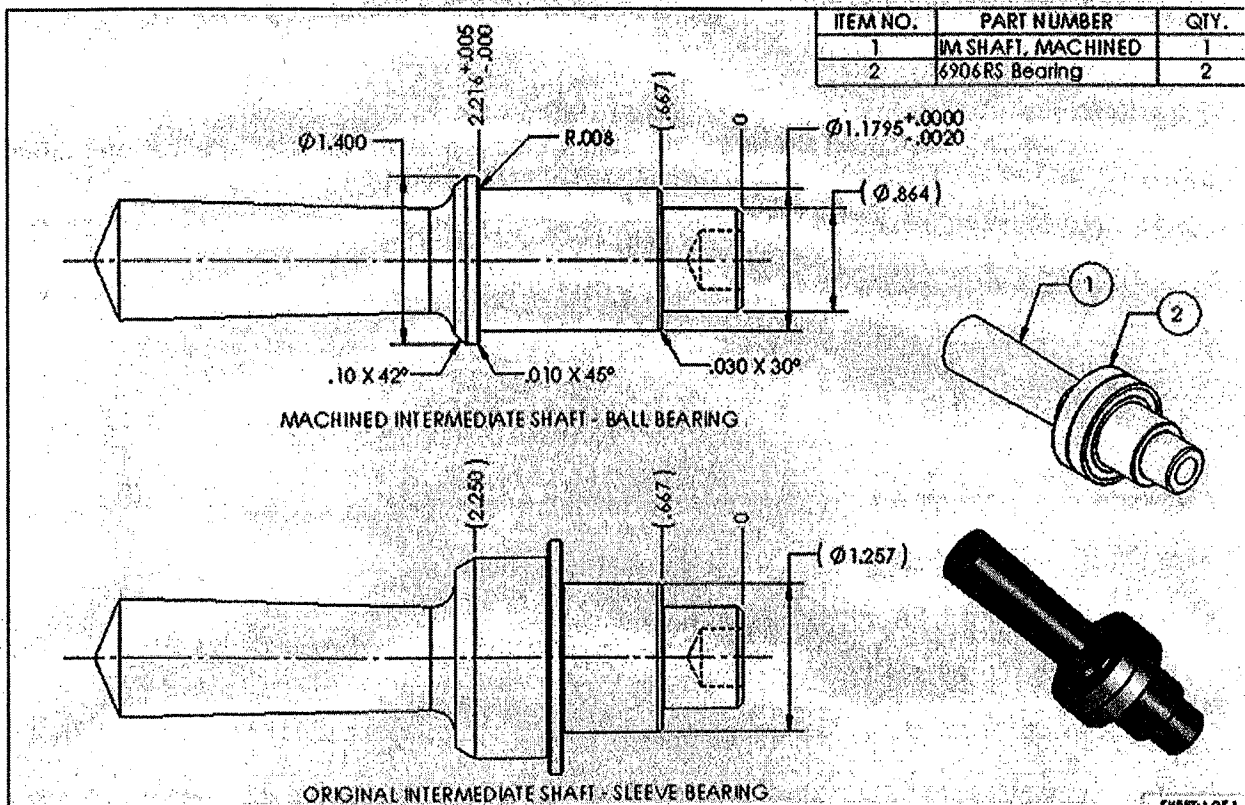

Fig. 01
- d. Following part shown in Fig. 01 is to be machined using a lathe machine. Give the necessary setup details, tools used and the operations to be performed on each feature using the machine. (50 mark)